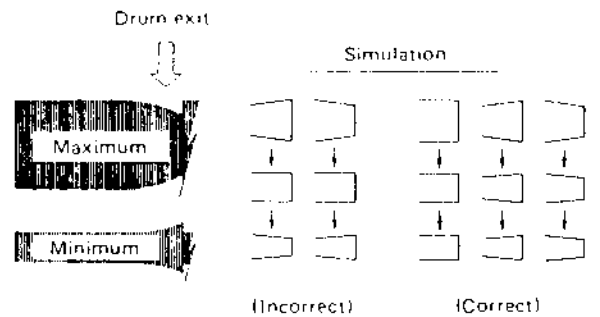

Fig. 1-6-3 Drum exit
- 3) In the same manner as for the rising portion, turn the take-up guide roller to adjust the falling portion (drum exit) of the FM envelope. See Fig. 1-6-3.